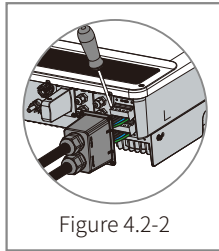

Figure 4.2-2
- **On-grid & back-up connection:** Confirm on-grid connected to power grid and back-up connected to loads: polarities (L1/L2/L3/N are in sequence) are not reversed, refer to Figure 4.2-2.